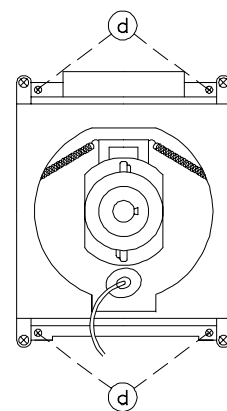

Figure 5-5
1. Carefully position the replacement CRT and fasten in place using 4 screws "d". [Figure 5-5]